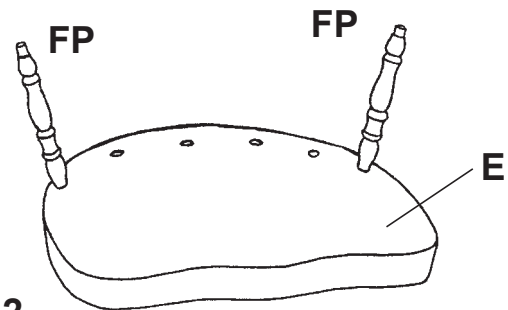
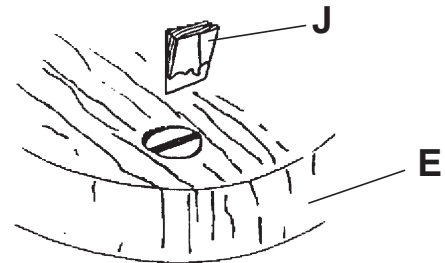

FIG. 2
FIG. 3
- 2) Spread glue evenly in each of the outermost holes on either side of the Seat (E). Insert the Back Posts (FP) into these holes, as shown in FIGURE 2. Keep the slot on the bottom of the back posts crossways to the wood grain. See FIGURE 3.
- 3) Put a little glue on the end of the wood Wedge (J) and hammer the wedge into the slots at the bottom of the back posts as shown in FIGURE 3.